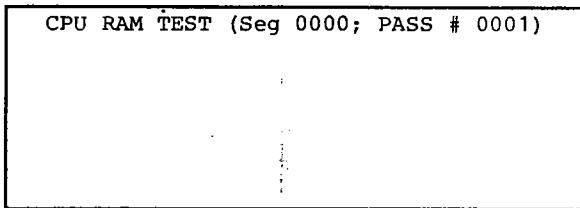

Fig. 5-8
2. Select "3) CPU RAM TEST" by pressing the DATA ENTRY key and the screen shown in fig. 5-8 will appear on the LC-display.